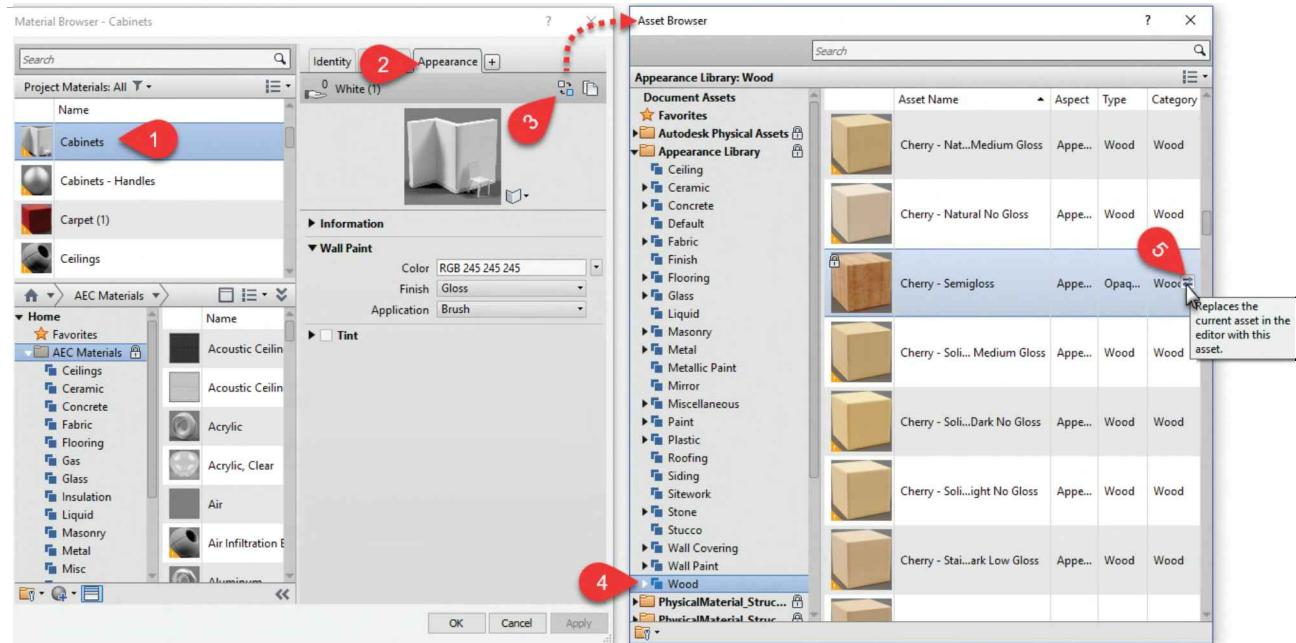

FIGURE 14-3.8 Material dialog – with *Asset Browser* open
19. Open the *Asset Browser* by clicking the **Replace this asset** link on *Appearance* tab as previously covered (Figure 14-3.8).
20. Change the *Appearance* material to **Cherry - Semigloss** (Figure 14-3.8).